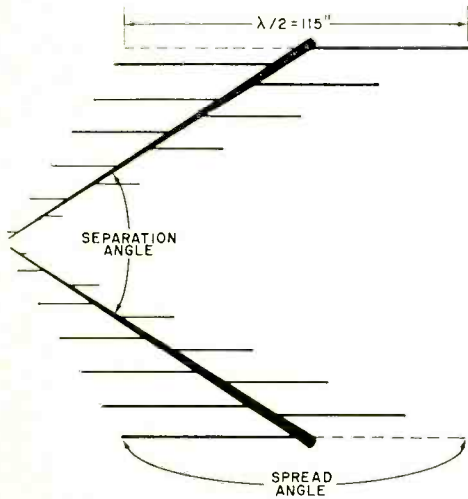

Fig. 1. Antenna gain and pickup characteristics are chiefly determined by spread and separation angles.
**Antenna Characteristics.** The factors that have the greatest effect on the gain and performance of the Pyramidal antenna are the spread and separation angles (see Fig. 1) and, to a lesser degree, the number of elements used to
Theoretically, the longest element in the array should be cut to one-half wavelength at the lowest operating frequency. In practice, however, this is neither necessary nor desirable since the drop-off of the gain curve is so gradual. For this reason, as shown in Fig. 1, the longest element spans only 115" tip-to-tip, about one-half wavelength at 51 MHz.